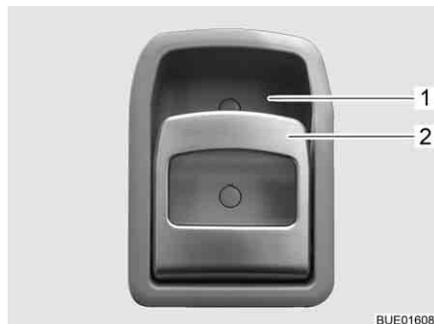

Fig. 68 Door lock of conversion door, inside
- Pull on the handle (Fig. 68,2). The door lock is unlatched or opened.
- Press the upper part of the handle (Fig. 68,2) in the direction of the recessed handle (Fig. 68,1). The door lock is locked.